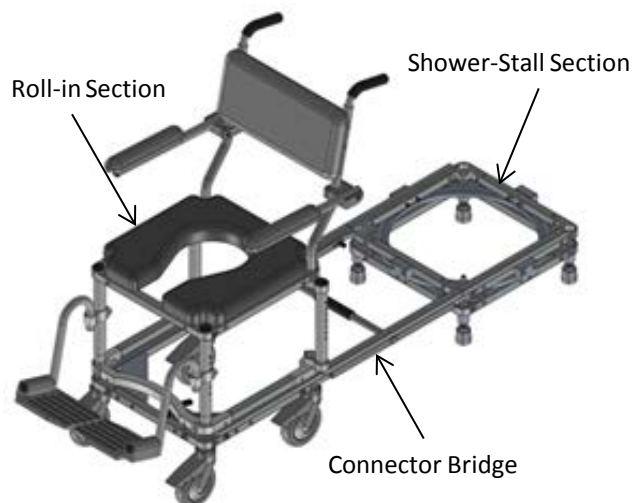

FIGURE 1
A. The multiCHAIR 6000RS (refer to Figure 1) is comprised of three sections: the roll-in section, the connector bridge section and the shower-stall section. Unpack all items from the shipping carton and layout.